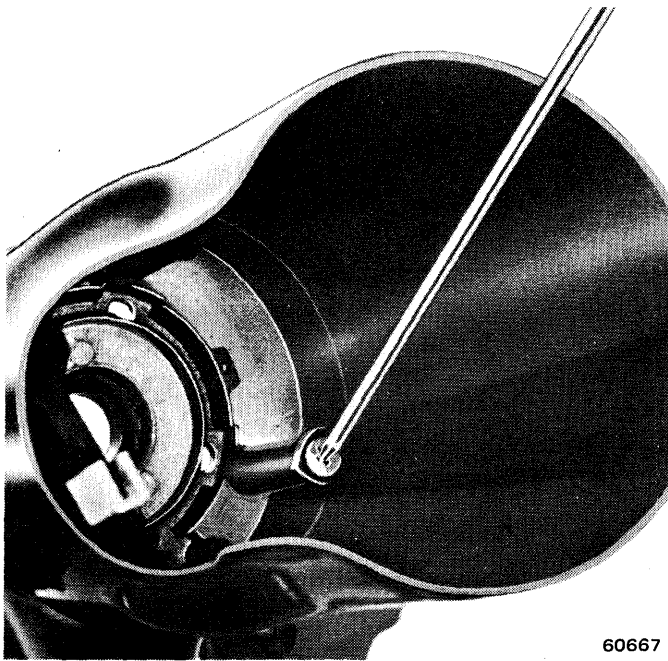

Fig. 11-10 Removing Shroud From Housing
- (21) Disengage remote rod from lock rack.
- (22) Remove screws attaching shroud to housing (fig. 11-10) and separate shroud and housing.